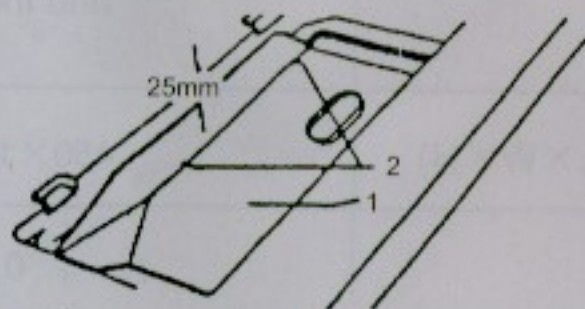

Figure 1
Fix the oil disk (1) with 4 pins (2) onto the frame openings of the plate. Make sure the distance between the oil disk and the plate surface is equal to 25mm. The right side of the oil disk should be kept in line with the right frame of the plate (see Figure 1).